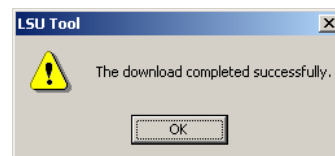

Figure 294: Successful Firmware Upgrade.
3. If the upgrade is successful, the following window appears (Figure 294).